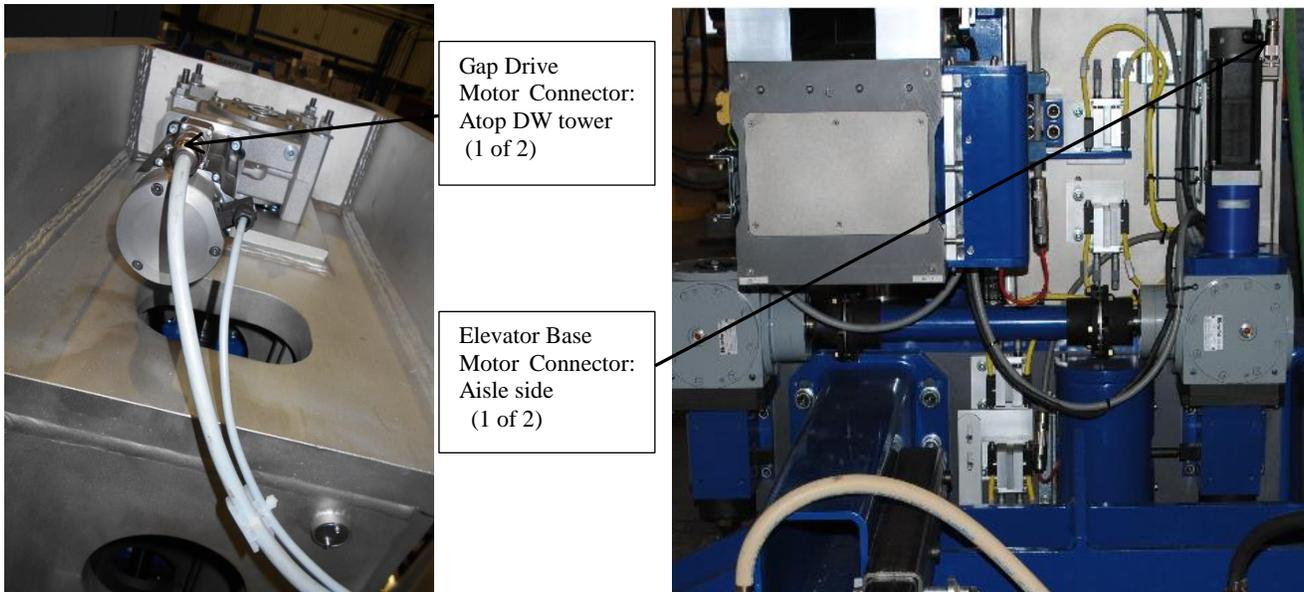

Figure 6-4 & 6-5: DW Gap and Elevation Motors (one U/S and one D/S for each, total four per DW).
6.1.12 In the ring, identify the cable pin connectors (i.e., "plugs") at each motor (i.e., two Gap Drive, two Elevator Base; total of four). See Figures 6-4 and 6-5, respectively.